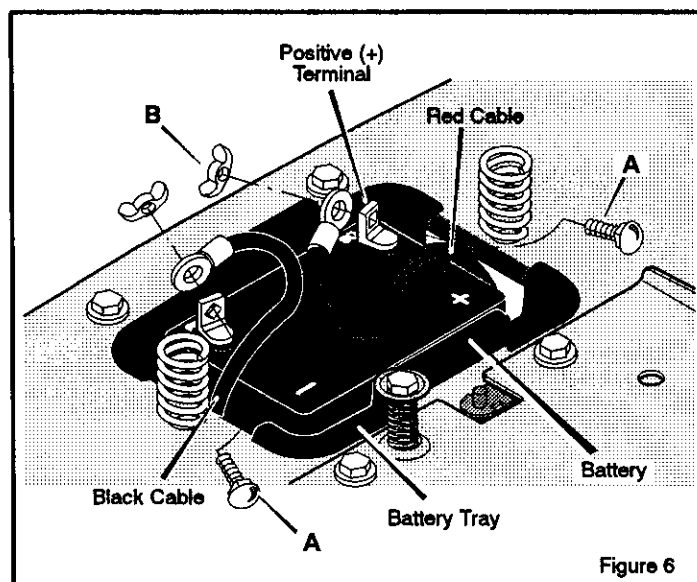

Figure 6
1. Check the top of the battery for the location of the battery date (Figure 6).
2. Fasten the red cable to the positive (+) terminal with the fasteners as shown (Figure 6).